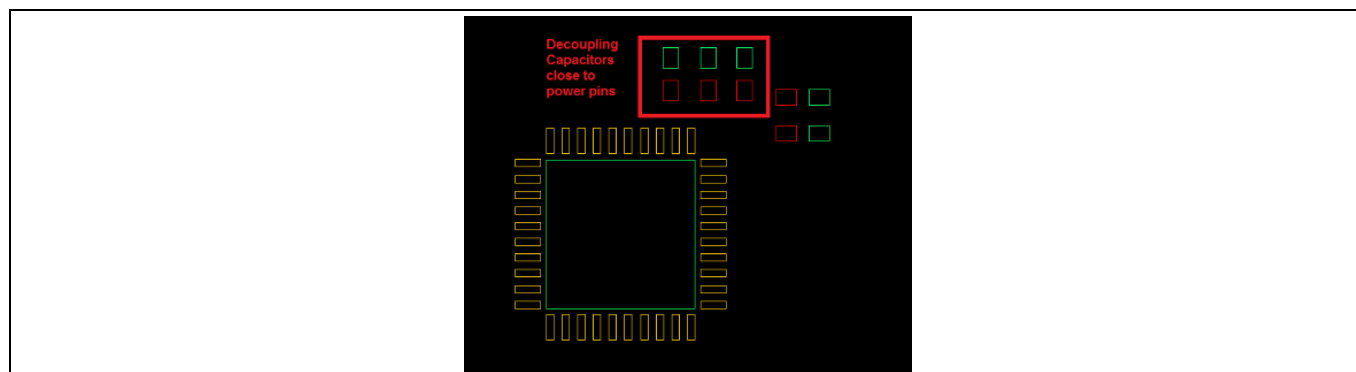

Figure 7-3 Placement of Bulk and Decoupling Capacitors
- Place decoupling capacitors close to the power pins of the respective CCG controller for high- and low-frequency noise filtering, as shown in Figure 7-3.